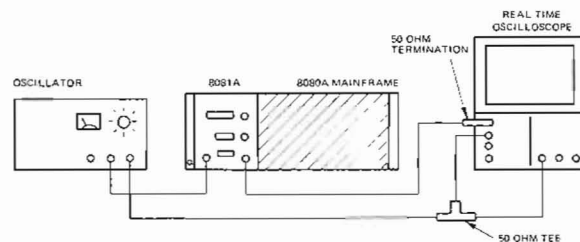

Figure 4-3. External Trigger Mode (Slow) Test Setup
1. Set up the equipment as shown in figure 4-3 and set the controls as follows: